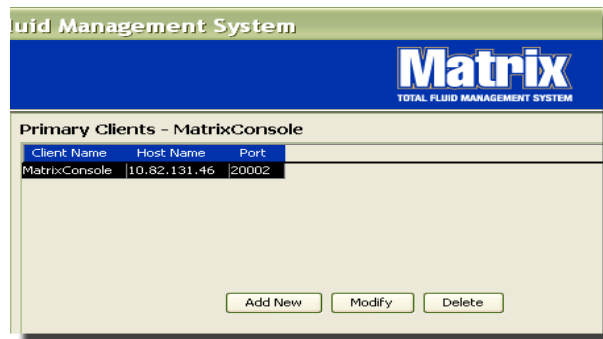

FIG. 94
- To add additional Primary Clients, select the Add New button (FIG. 94).